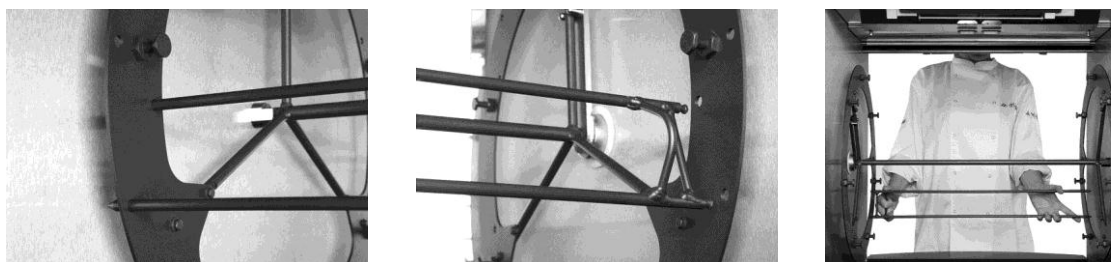

Figure 12
4. Put the points of the meat forks through the appropriate holes in the rotor disks (see Figure 12).